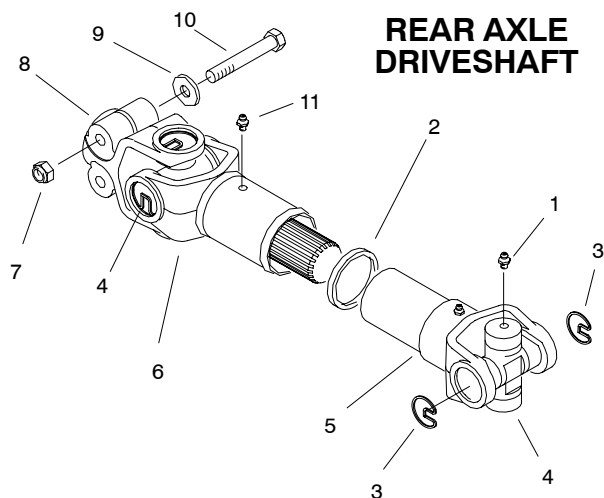

Figure 23
- B. For rear axle driveshaft (Fig. 23) removal, see Stub Axle and Driveshaft Removal in this section.